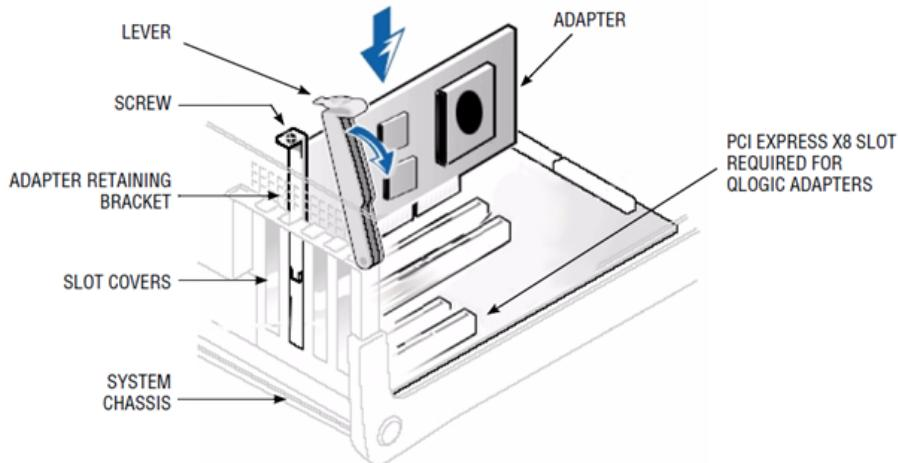

Figure 5-1. Adapter Hardware
6. Grasp the adapter by the top edge, and insert it firmly into the slot (Figure 5-1).